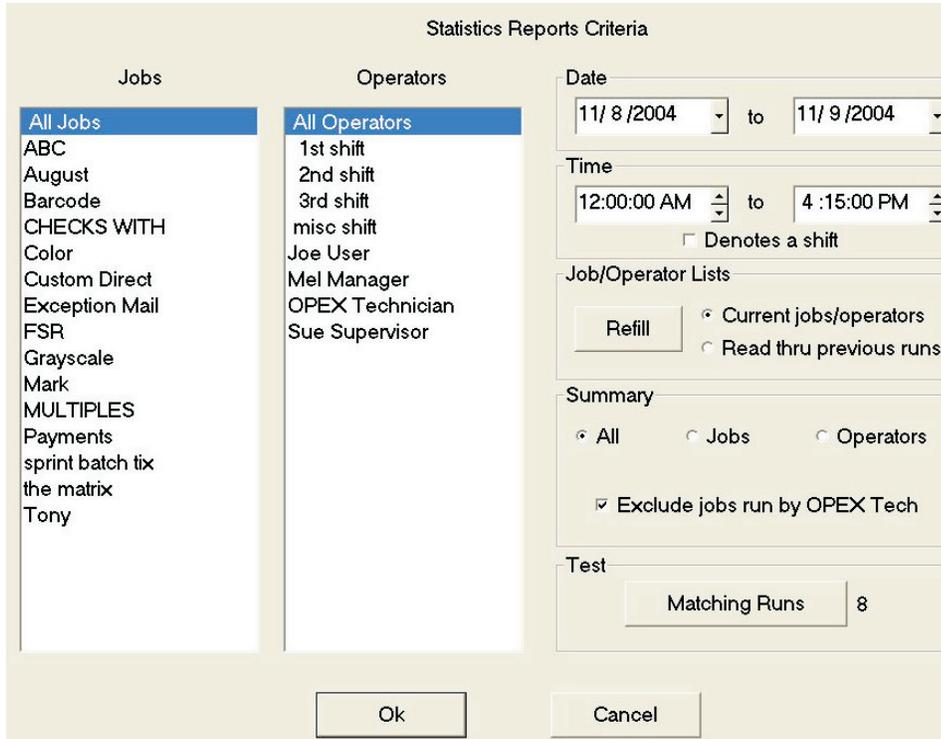

FIGURE 34: The Statistics Reports Criteria window
- 2 In the Statistics Reports Criteria window, set the parameters for the report as shown in Figure 34:
- Date - set the start and end date for the report. In Figure 34, the Summary report was run for a single day, but virtually any range can be selected.
- Time - set the start and end time for the report. In Figure 34, these parameters were set to include the 3rd shift (12:00 AM-8:00 AM) and the first shift (8:00 AM to 4:00 PM).